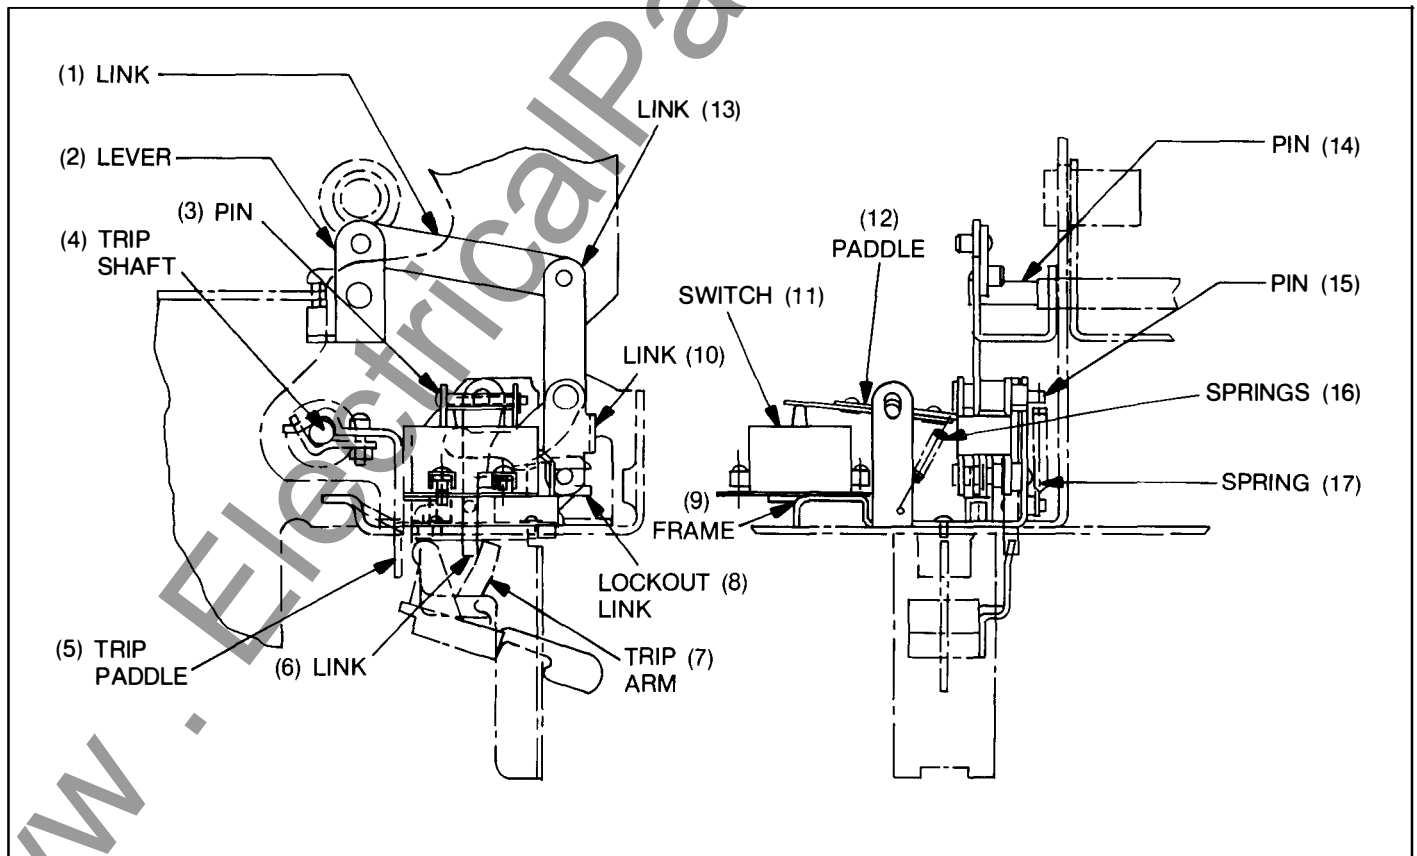

Fig. 15. Bell alarm and lockout device
Bell Alarm Switch and/or Lockout Attachments (Fig. 15)
The lever (2), Fig. 15, is connected to the breaker mechanism so that when the breaker opens, lever (2) rotates counterclockwise about pin (3). The motion is transmitted through links (1) and (13) to paddle (12) which operates bell alarm switch (11). If the device has the lockout feature, the movement of link (13) also causes lockout link (8) to slide in a direction that results in its striking trip paddle (5) which, by displacement of the breaker mechanism trip latch, makes it impossible to reset the breaker mechanism until the bell alarm mechanism is reset.